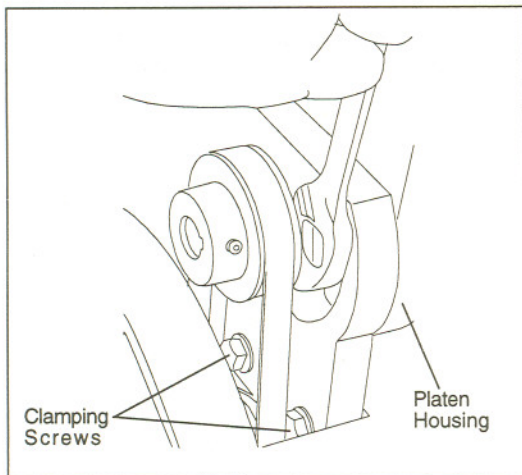

Figure 7. Platen Housing Clamping Screws
2. Remove four screws (52) and pulley cover (12).
3. Using an open end wrench, loosen two hex screws (13) (refer to Figure 7).
4. Move the platen housing to the desired position. When the platen housing is to be placed in the horizontal position, lower the platen housing onto stop screw (28) on the machine base.
5. If the stop requires adjustment, loosen jam nut (29), adjust stop screw (28) to desired position, and tighten nut (29).
6. Tighten two hex screws (13).
7. Install pulley cover (12) and secure with four screws (52).